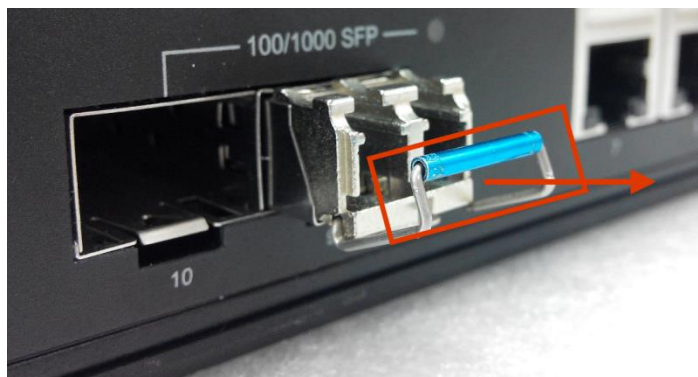

Figure 2.13: Pull Out from the SFP Module
Step 2. Push down the metal clasp and pull the transceiver out by the plastic part as shown below in Figure 2.13